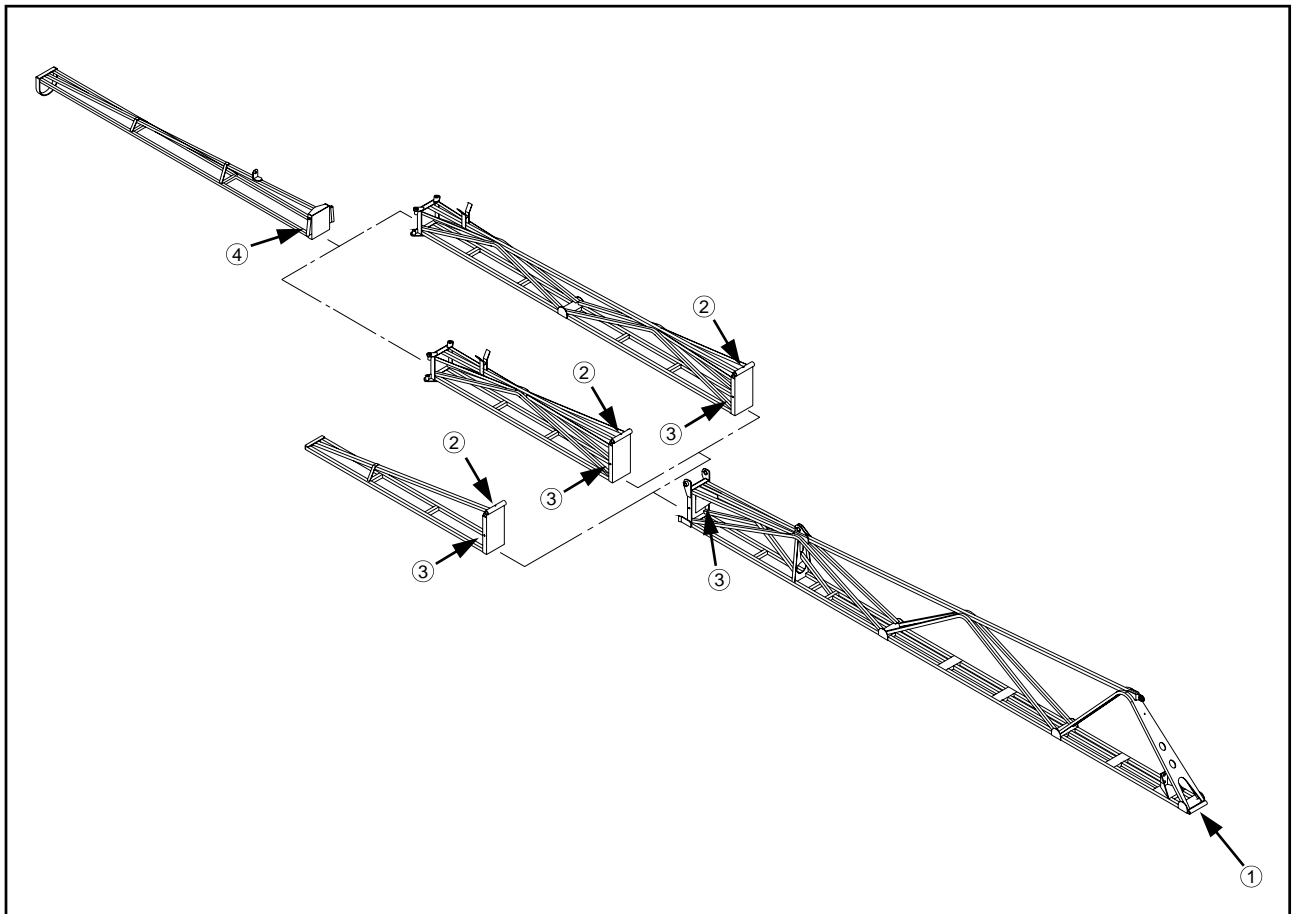

FIG 8.30
Sixty foot boom options have a grease zerk on the boom level pivot point connected to the breakaway (fig. 8.30, item 1) and the boom extension vertical folding pivot point (fig. 8.30, item 2). Eighty and ninety foot boom options also have these zerks in addition to zerks for the boom folding link clevis pins (fig. 8.30, item 3) and the folding pivot of the outer boom breakaway (fig. 8.30, item 4). Check all and grease as required.